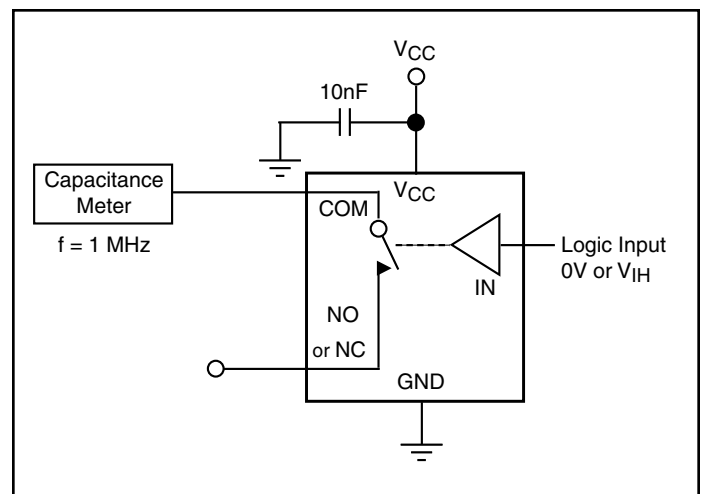

Figure 8. Channel On Capacitance
| NC On Capacitance | C _{NC (ON)} | f = 1MHz, See Test Circuit Figure 8. | | 240 | | |
| NO On Capacitance | C _{NO (ON)} | f = 1MHz, See Test Circuit Figure 8. | | 225 | | |